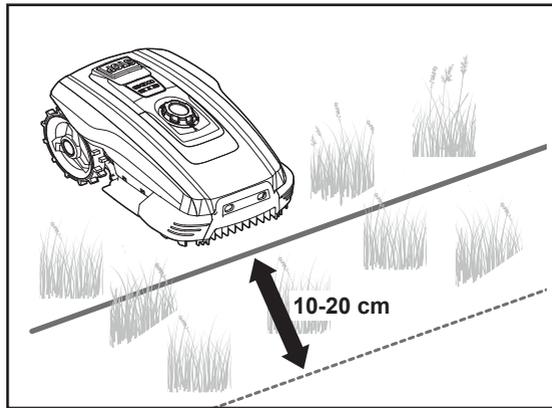

Fig. 1
NOTE: To ensure precise navigation, the machine intentionally crosses over the boundary wire (19) by a small margin of around 10 to 20 cm. This behaviour should be taken into consideration when planning the layout of the mowing area (Fig. 1).